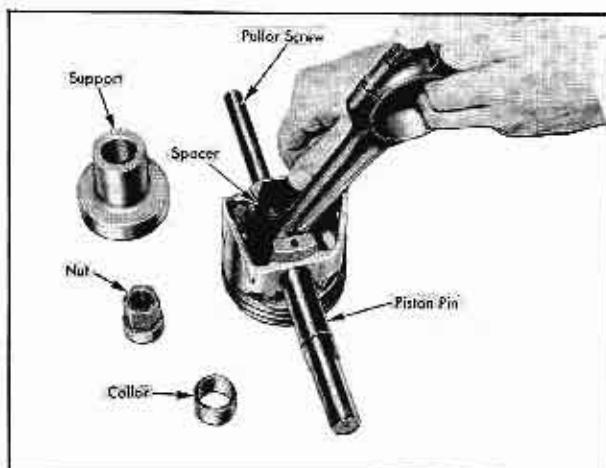

Fig. 10-22 Installing Puller Screw and Spacer
5. Install puller screw through piston pin and pilot from side of piston marked "REAR", Fig. 10-22.
NOTE: The spacer must be installed between the piston and the rod on the side opposite that stamped "REAR", Fig. 10-22.